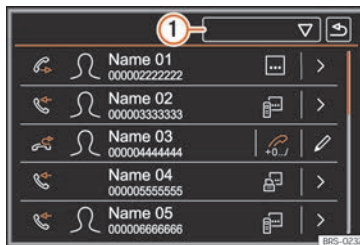

Fig. 226 Calls Menu (list of calls).
- Press function button  » Fig. 226 1.